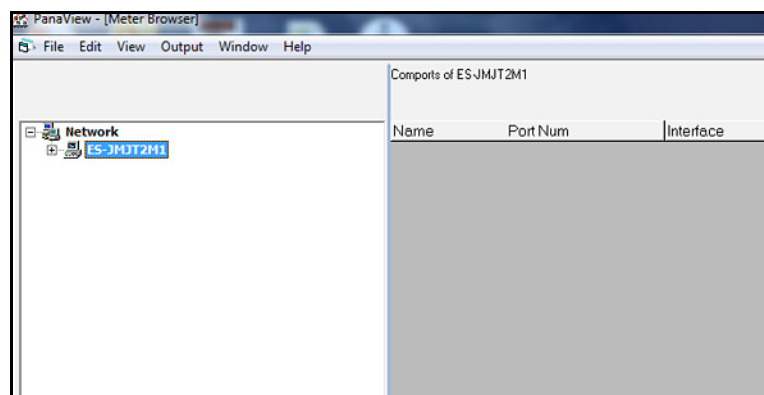

Figure 28: My Computer Branch
1. Expand the *network* branch by clicking on the “+” sign to its left. Then, highlight the *My Computer (Name)* branch and the *Meter Browser* window will look like Figure 28 below.
Note: The right pane in Figure 28 above lists all of the communication ports, along with their configuration parameters, that are currently assigned to the named computer. If this is the initial meter setup, the list is empty.
- Open the “*New Meter Browser*” window and expand the network tree as shown in *Figure 28* on page 28. Then, click and highlight the *My Computer (Name)* branch.